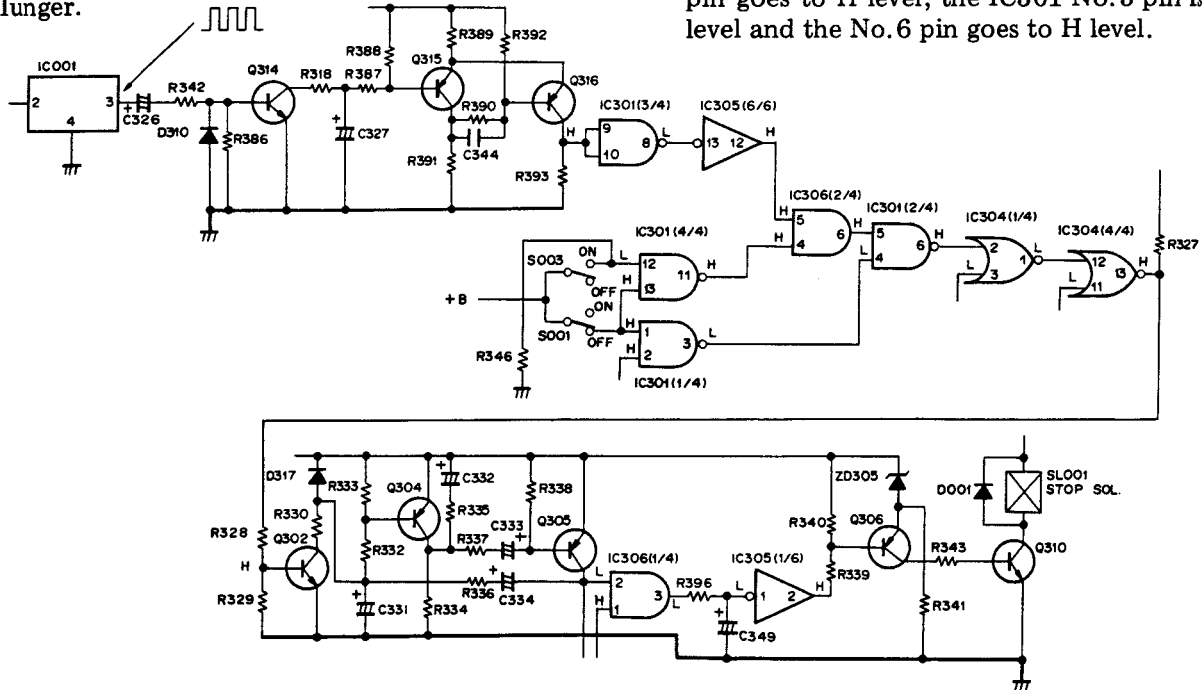

Fig. 7-12 Auto-stop detection circuit
- The auto-stop detection circuit is shown in Figure 7-12. With the play lever depressed and the tape is being transported, the Hall IC (IC001) turns on and off repeatedly due to the action of the magnet attached to the counter, so that a rectangle wave (pulse) signal (as shown in Figure 7-12) is produced at the No.3 pin.